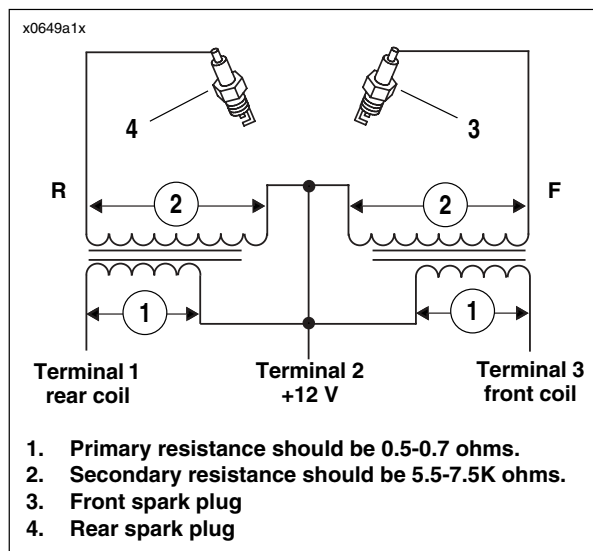

Figure 4-72. Ignition Coil Circuit
3. See **Figure 4-72**. Using HARNESS CONNECTOR TEST KIT (Part No. HD-41404) gray socket probes, place multimeter wires on primary coil windings from terminal 1 to 2, and from terminal 2 to 3.
3. See **Figure 4-72**. Place multimeter wires on secondary coil windings from terminal 2 to R, and from terminal 2 to F.